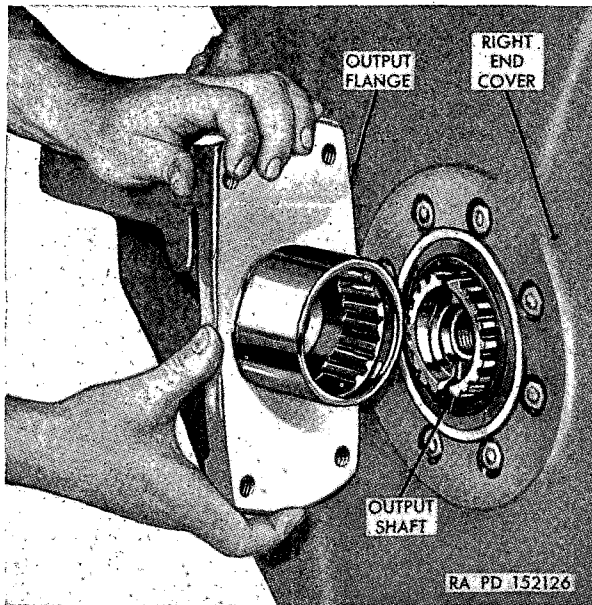

Figure 387. Installing output flange.
- (4) Install 36 washers, $\frac{1}{2}$ -inch nuts, and jam nuts on the right housing studs to secure the right end cover to the transmission. Torque the nuts 42 to 50 pound-feet.
- (5) Apply heavy grease to the right output shaft so that the output flange will go on more easily. Install the flange, lining up the grooves on the external face of the flange with the slots on the output shaft (fig. 387).